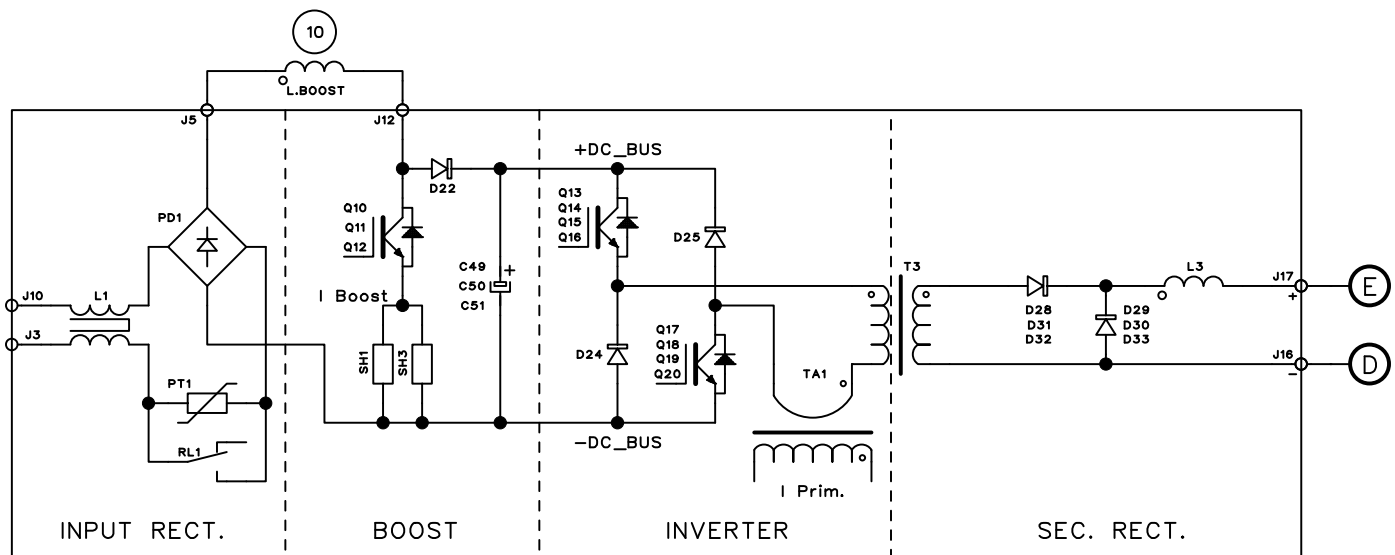

Fig. 2.3.1
More precisely in the power board (13) they can be identified (Fig. 2.3.1):
- the igt inverter, that generates the square wave alternated voltage for the T3 power transformer, installed on the power board (13);